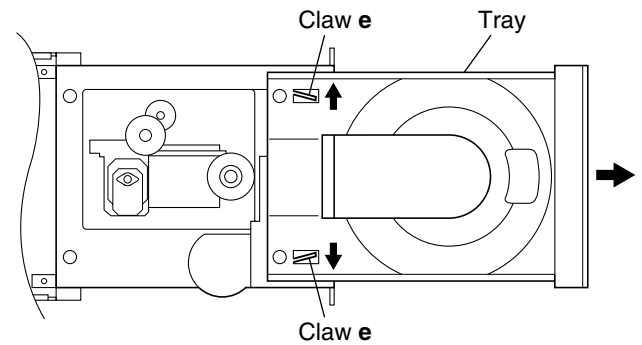

Fig.6
4. While opening up the claws **e** at the left and right of the tray in the directions of the arrows, remove the tray. (See Fig.6.)